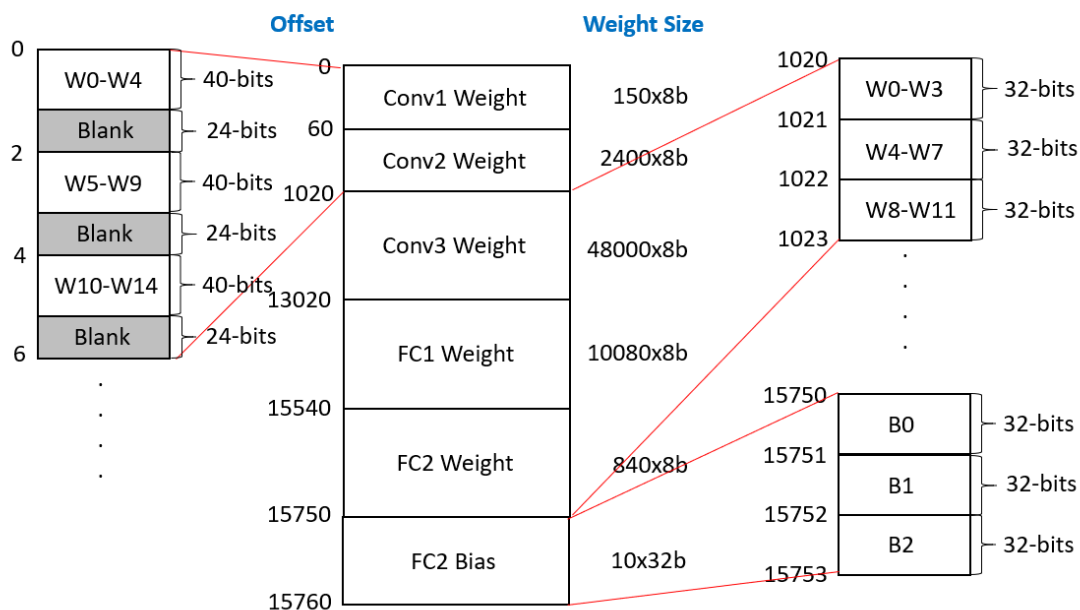

Figure 1: Layout of weight SRAM.
3. Figure 1 shows the layout of the weight SRAM. In the Conv1 and Conv2 weight layers, we store five 8-bit weights every two addresses (40 bits for the weights and 24 bits for blank data). It is possible to access five weights in one clock cycle. Note that the Conv3 layer can be treated as a fully-connected layer. For the Conv3, FC1, and FC2 weight layers, we store four 8-bit weights at each address. For FC2 biases, one 32-bit bias is stored at every address. **In this homework, you only need the FC1's weights, which are located from offset 13020 to offset 15539.**
5. We provide golden data for you to validate your design, which has been preprocessed to match Figures 1 and 2. We recommend that you trace and understand the testbench code, as you will need to do the data preprocessing yourself in the upcoming Homework 4.